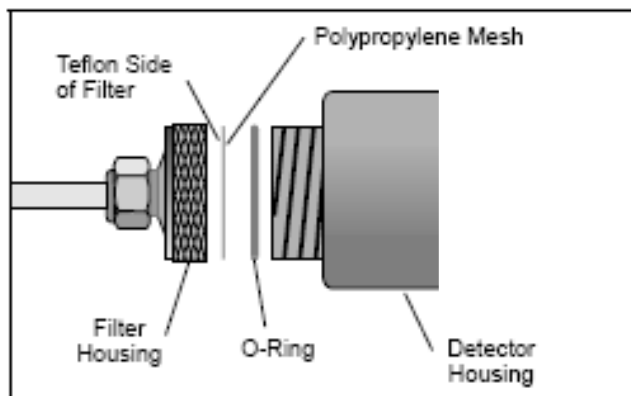

Figure 34. Inlet Filter
2. Locate the exhaust frit and cap on the main unit, identified as "Exhaust". (See Figure 34)